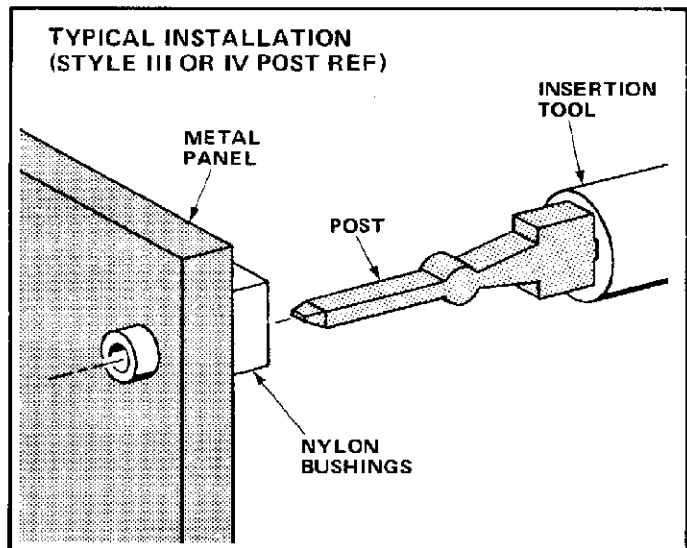

FIGURE 9
1. Position the post in the tool as shown in Figure 9.